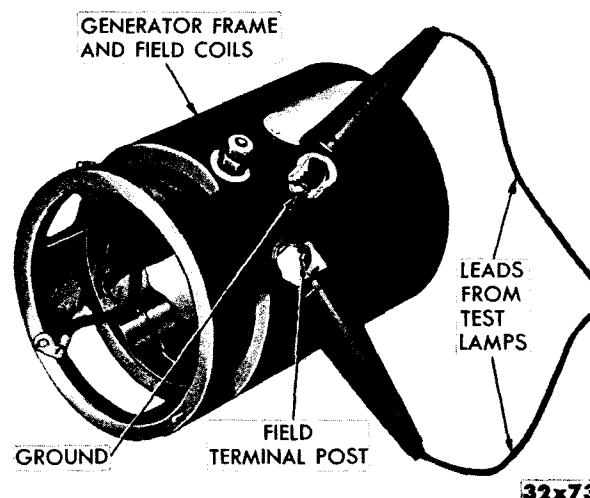
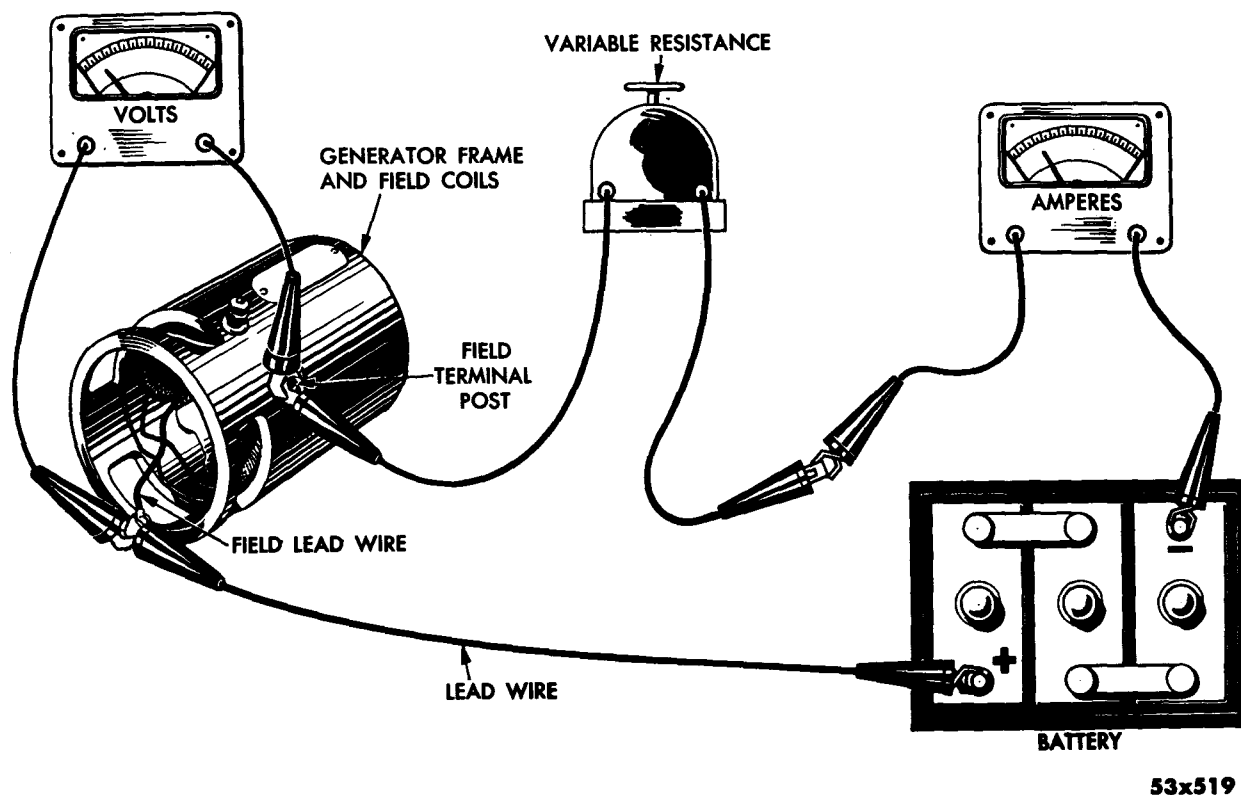

Fig. 13 — Testing Field Coils for Ground
Fig. 14 — Testing Field Coils for Field Current Draw
a. Testing Field Coils for Ground (Fig. 13)
- (1) Touch one test prod from a 110 volt test lamp to the "F" terminal post and the other prod to the generator frame. The test lamp will light if the field coils are grounded.
- (2) If a ground is indicated, remove the "F" terminal post nuts, washers, insulators and the terminal post from the generator field frame. Inspect insulation washers for charring and proper installation. If the terminal post is not grounded, separate the field coils and test each one individually. If test lamp lights the coil is grounded. If coil is defective, replace it.
b. Testing Field Coils for Current Draw (Fig. 14)
- (1) Connect a test ammeter and variable re-
sistance in series with the negative post of a battery and the generator field "F" terminal post. Connect voltmeter, as shown in Figure 14.